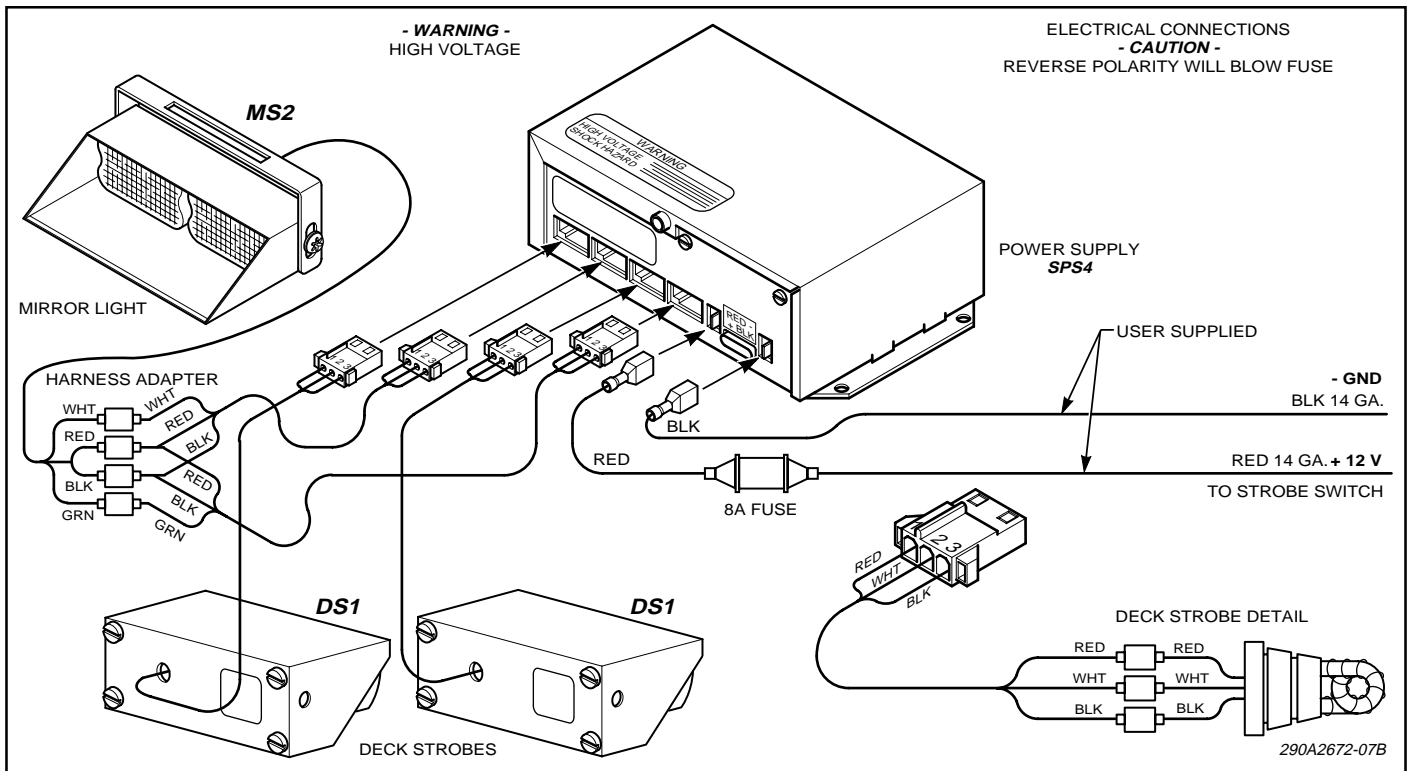

Figure 5.
Refer to figure 5 while completing the electrical connections.
- D. Assemble the plastic connectors on the deck strobes' cable assemblies. Using figure 5 as a guide, ensure that the pins are located in the correct position in the plastic connector. Connect the cables to the power supply. Allow for a drain loop for power supply maintenance.
- E. Route the mirror light cable to the power supply. Crimp the four 1/4" male quick-connect terminals on the end of the mirror light cable wires. Connect the mirror light cable wires to the adapter harness wires by matching the wire colors. Using figure 5 as a guide, connect the adapter harness connectors to the power supply. Allow for a drain loop for power supply maintenance.